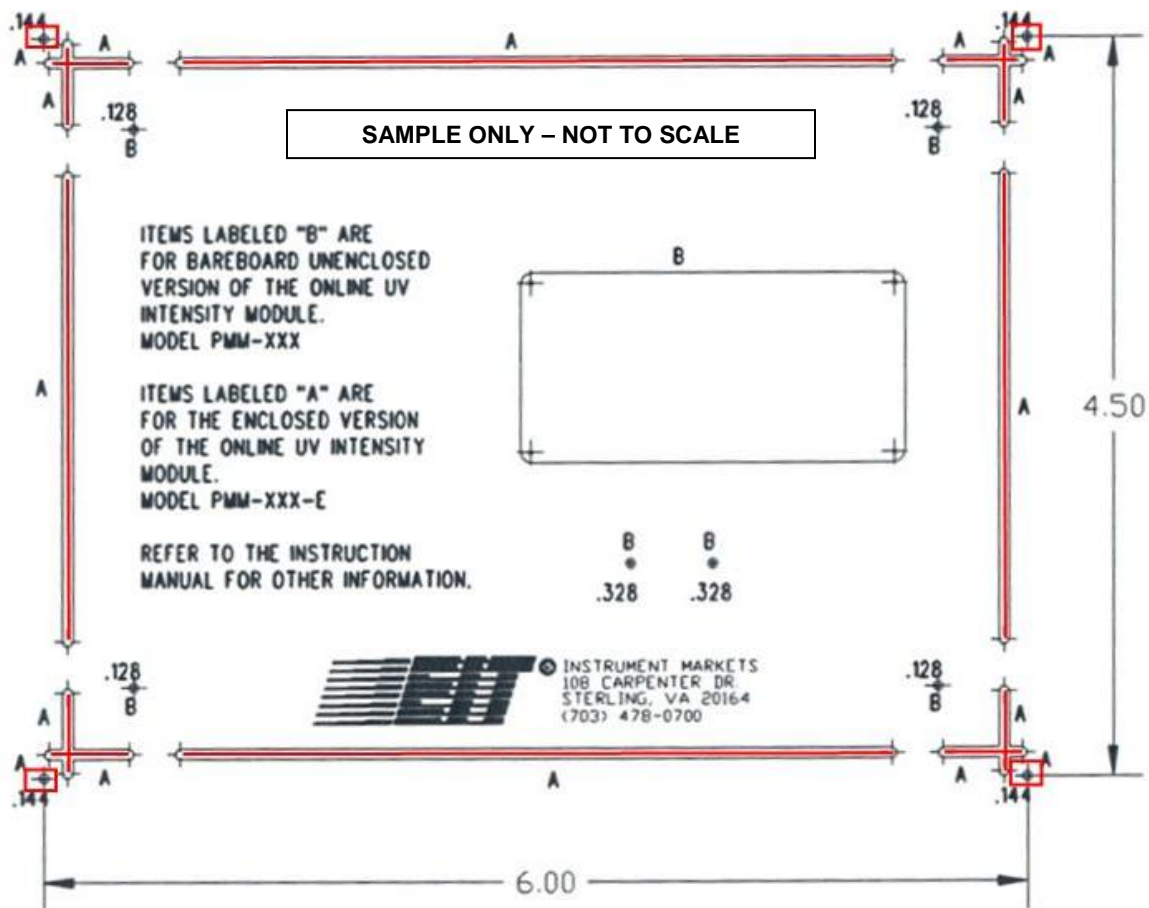
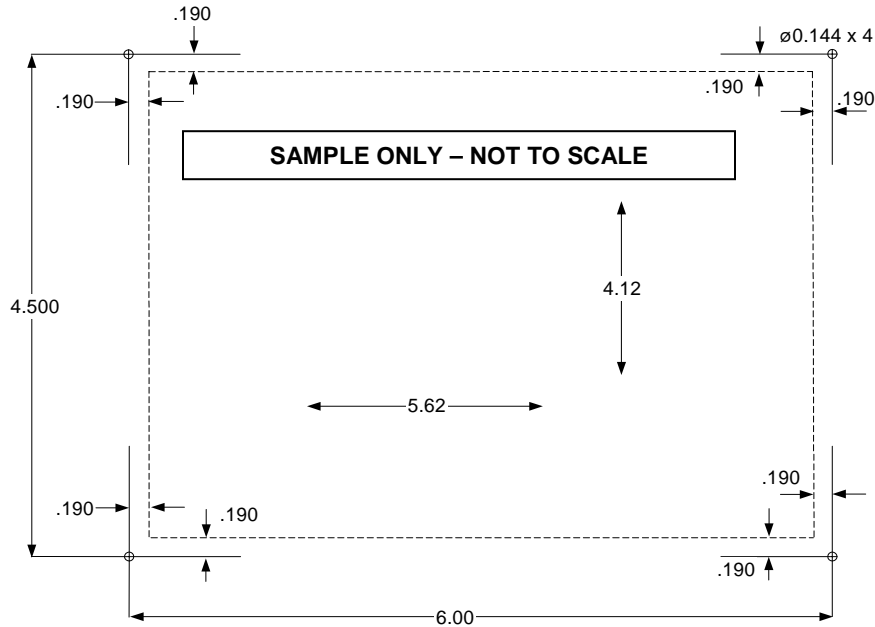

Figure 22: Enclosed Module "A" Cut Lines and Drill Holes
Figure 23: Enclosed Module Installation Mechanical Drawing
To install the enclosed module, a 4.12" x 5.62" rectangle and four 0.144" diameter screw holes are cut from the control panel. EIT provides a cut and drill template (part number 92332A) in the accessory kit (See Figure 22). Figure 23 provides the required cutout and drill dimensions.
- The drill template (part number 92332A) shows cut lines and drill holes marked "A" and "B". USE ONLY THE CUT LINES AND DRILL HOLES MARKED "A". Figure 22 marks the "A" cut lines and drill holes in red.
- See Figure 23 for drill locations and line cutout dimensions.